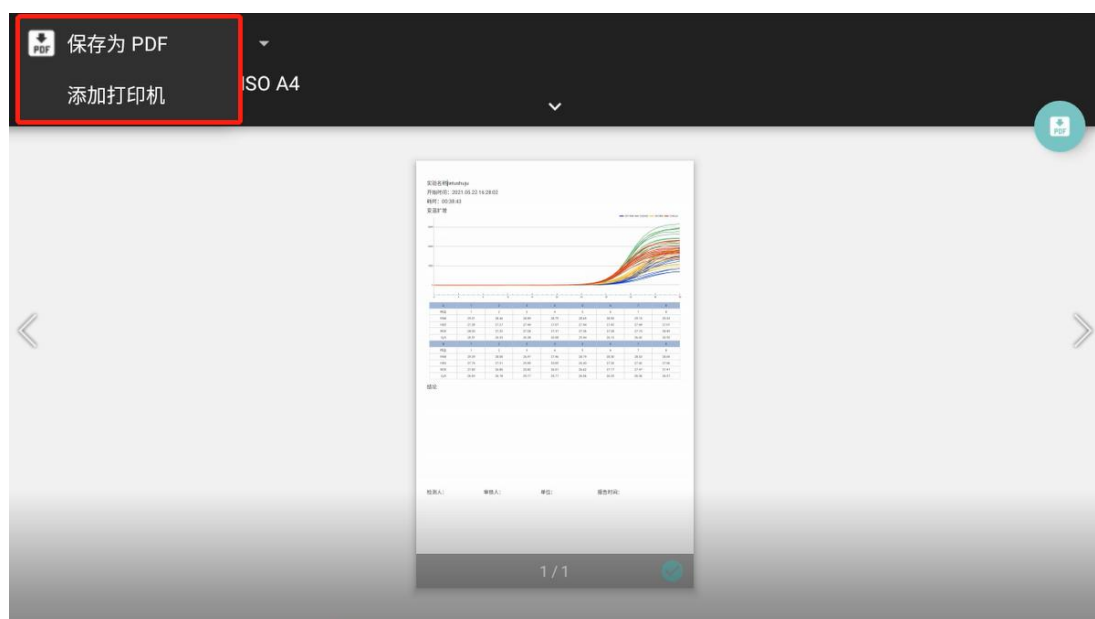

Figure 4.6-5 Whether to add a printer page
- 5) Click the upper left corner of the "drop-down" button, "Save as PDF" or "Add Printer" option, as shown in Figure 4.6-5 (Note: The printer needs to support Android system)